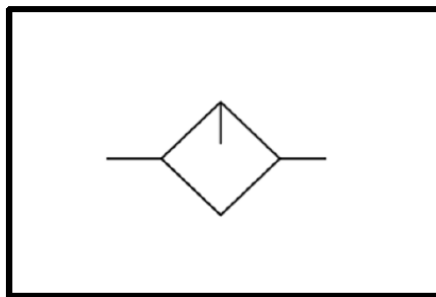

FIGURE 4.14
4.14 Identify the hydraulic symbol, shown in FIGURE 4.14 below.